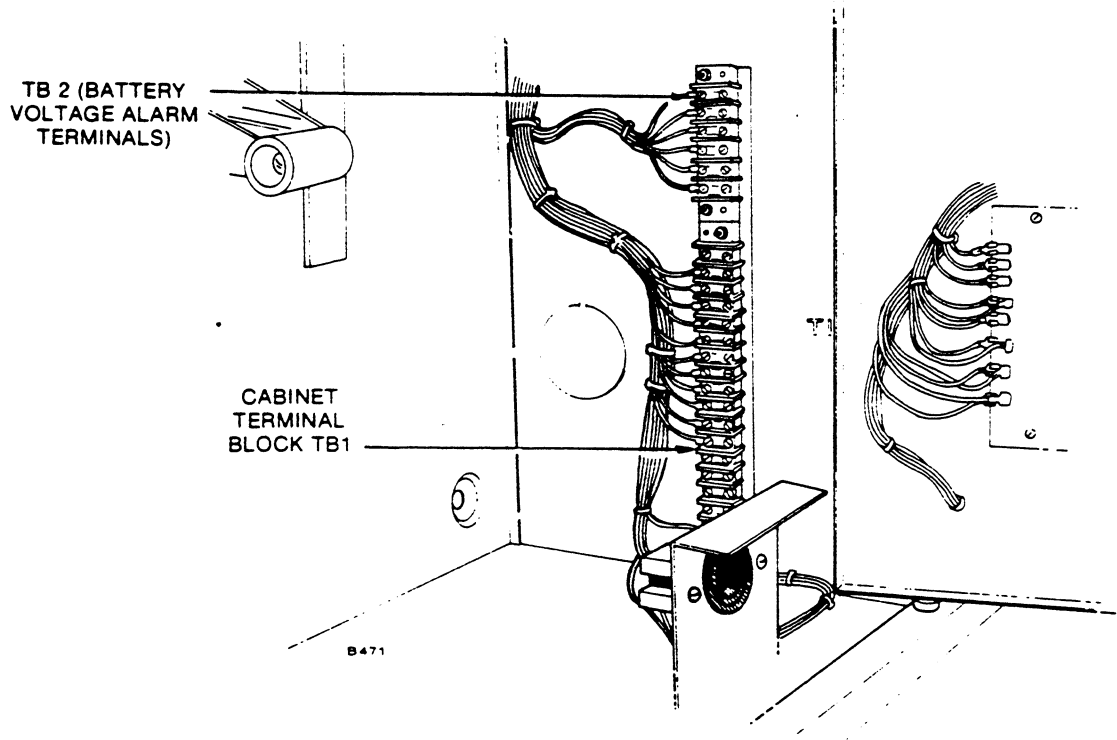

FIGURE 3. CABINET TERMINAL BLOCKS TB1 AND TB2
1. Remove terminal jumper located between terminals 4 and 5 of terminal strip TB1 (Figure 3).
Transfer Inhibit Circuit: To inhibit transfer of the automatic transfer switch by another control, remove the jumper between TB1-6 and TB1-7. Connect the wire leads from the external equipment to these two terminals. See Figure 3.